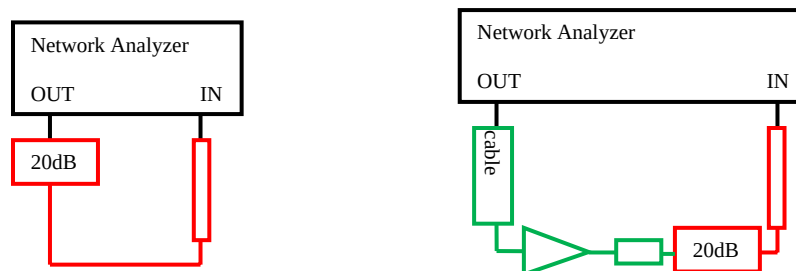

Figure 12-3 – Freq Response Calibration
- 2) Connect 20dB attenuator at the output of network analyzer, then the cable to the input. Set power to -30dBm, freq sweep 0.2 to 10.2GHz, increment 50MHz. See Figure 12-3 (left).
- 5) Connect the cable coming out of the right side panel of the BlazerX6 to the attenuator+cable, going to the input port of the network amplifier. See Figure 12-3 (right).